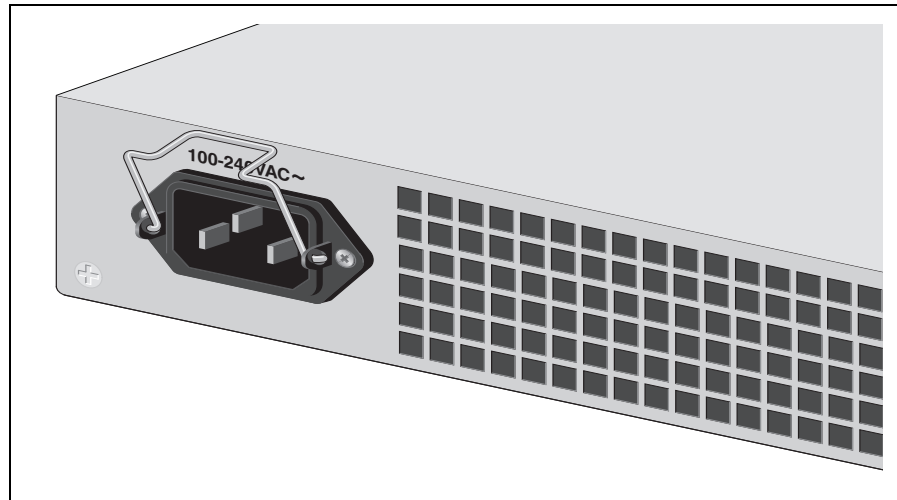

Figure 46. Power Cord Retaining Clip in the Up Position
1. Position the power cord retaining clip in the up position, as shown in Figure 46.